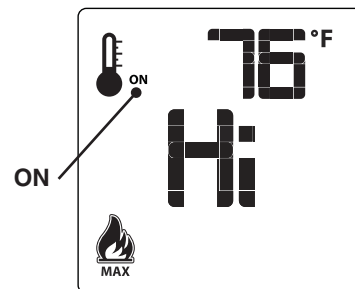

Fig. 45-4 Normal thermostat
- **Normal Thermostat Mode (Fig. 45-4):** In this mode, the fireplace will remain functioning until the room temperature increases 1°F above the Set Point Temperature. Refer to the following SET TEMPERATURE section for details on adjusting the set point temperature. The flame height can be adjusted while the fireplace is functioning. The secondary burner and accent light can be turned ON/OFF at any time after startup.